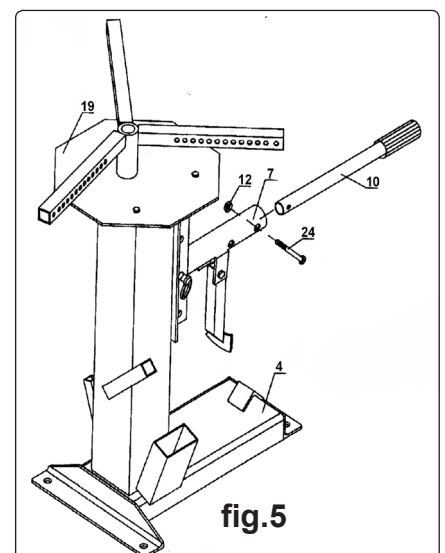

fig.5
- 3.4 Insert the Handle (10) into the Pivot Arm (7) using bolt (24) and lock nut (12) (fig.5).